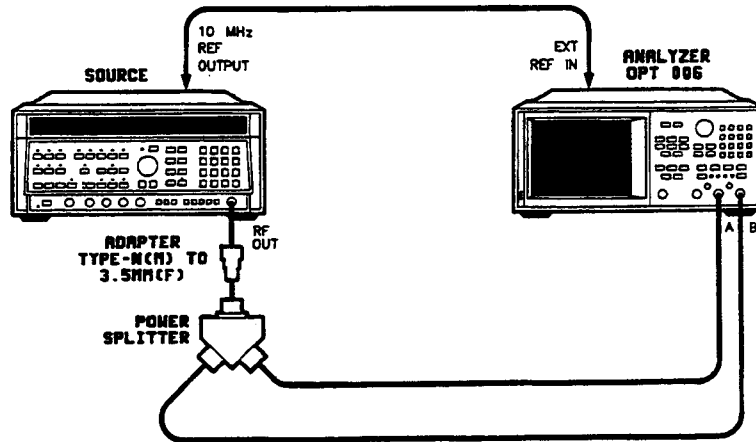

Figure 35. HP 8753B/C, HP 8702B Option 006 Frequency Response Test Setup
5. Move the RF cable from input R to input A of the analyzer (see Figure 35). Press **[MEAS] [A/B] ([MEAS] [INPUT PORTS] [A/B] for 8702)**. Set both instruments to 3 GHz and press **[MKR] [MKR ZERO DREF = D]** to reset the standard.
10. Move the RF cable from input R to input A (see Figure 35). Repeat steps 6 and 7, but now press **[MEAS] [A/B] ([MEAS] [INPUT PORTS] [A/B] for 8702)**.